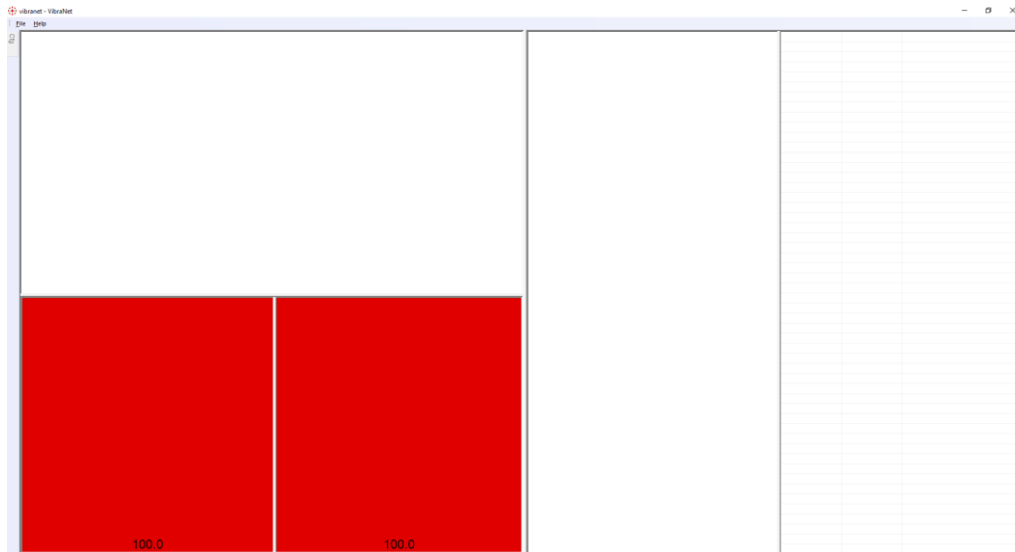

Fig. 2.4. First program start
1. After the first start of software, you will see the program window shown in fig. 2.4.